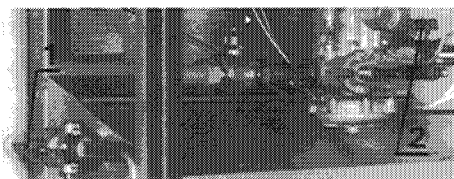

Fig. 12
Fill the system slowly. The filling operation should be carried out with the flow and return isolating valves on each module (1 and 2 - fig. 12) fully open.
- a) Isolate module with flow (1, fig. 12) and return (2, fig. 12) valves.